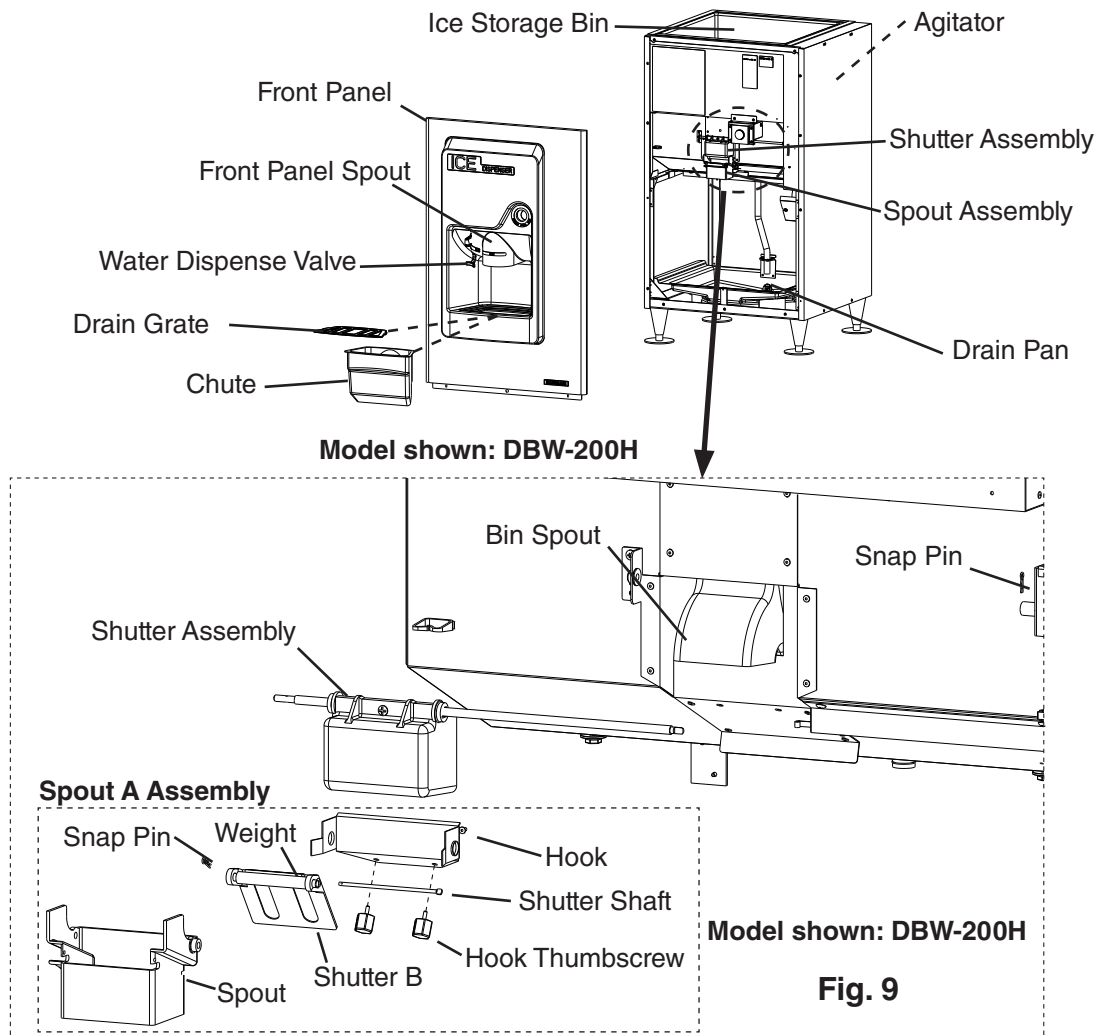

Fig. 9
- 7) Lift and remove the drain gate. Next, remove and clean the chute. See Fig. 9.